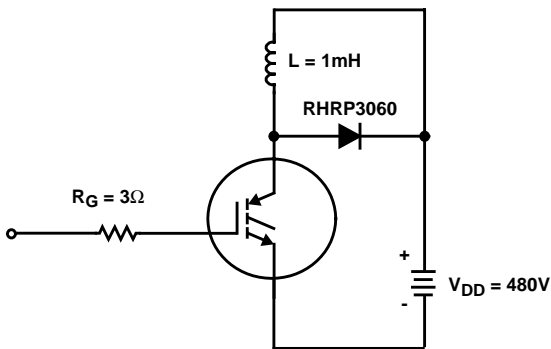

FIGURE 17. INDUCTIVE SWITCHING TEST CIRCUIT
| Current Turn-On Delay Time | $t_{d(ON)I}$ | IGBT and Diode at $T_J = 25^\circ\text{C}$ $I_{CE} = I_{C110}$ $V_{CE} = 0.8 BV_{CES}$ $V_{GE} = 15\text{V}$ $R_G = 3\Omega$ $L = 1\text{mH}$ Test Circuit (Figure 17) | - | 47 | - | ns | |
| Current Fall Time | t_{fI} | Test Circuit (Figure 17) | - | 100 | 210 | ns |
- Values for two Turn-On loss conditions are shown for the convenience of the circuit designer. E_{ON1} is the turn-on loss of the IGBT only. E_{ON2} is the turn-on loss when a typical diode is used in the test circuit and the diode is at the same T_J as the IGBT. The diode type is specified in Figure 17.